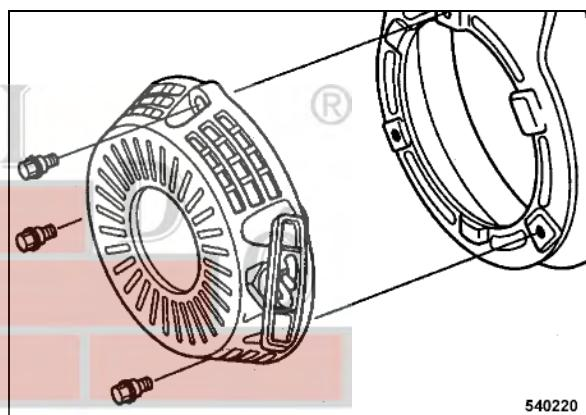

Fig. 46 □
- Remove the recoil starter (Fig. 46).